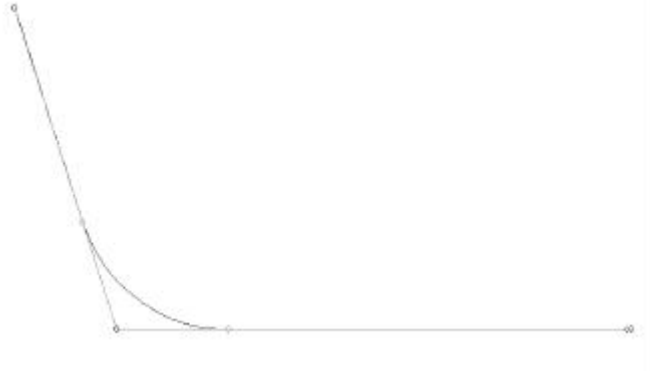

Figure 5-2: Midship Section Curve, Front View
2. Select the middle control point and position it at  $V = 0$  and about  $T = 10$ . Change it to a knuckle (**Toggle Corner** button), and then apply a fillet (**Radius Corner** button). We used a 3.0m fillet. (See figure 5-2.)